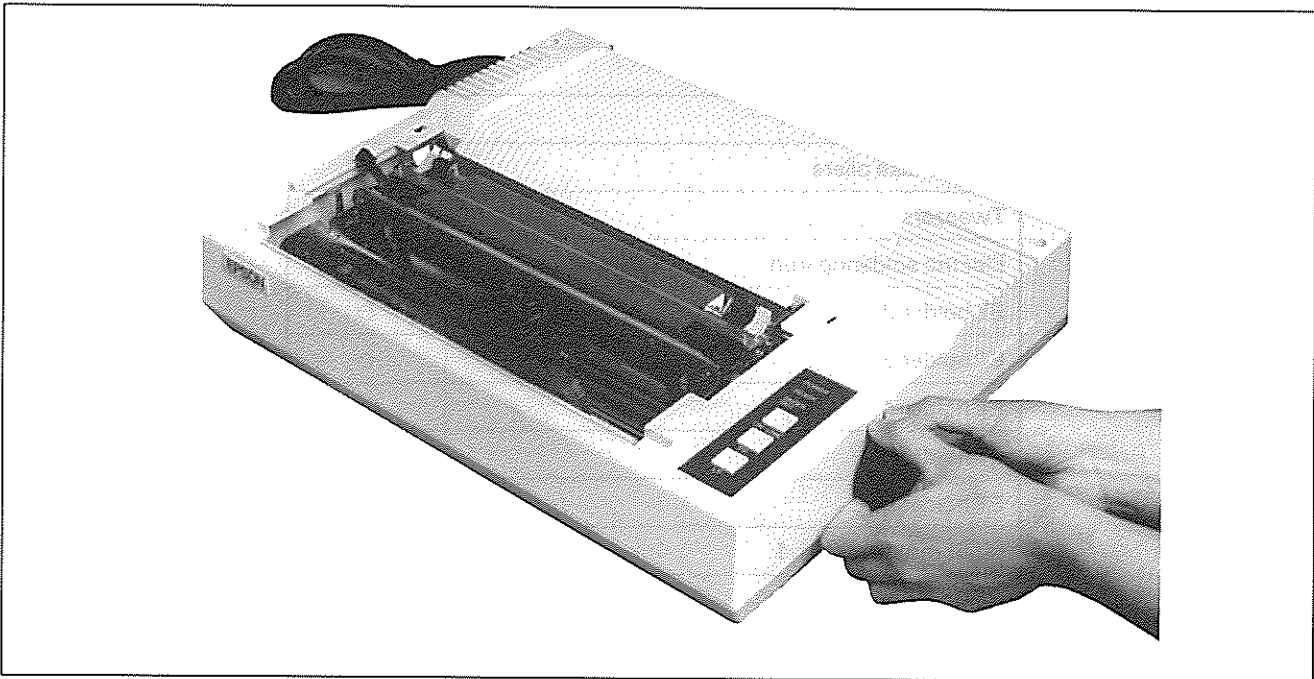

Fig. 4-1. Detaching Manual Paper Feed Knob
4.3.1 REMOVAL OF PRINTER UPPER CASE (Figs. 4-1, 4-2 and 4-3)